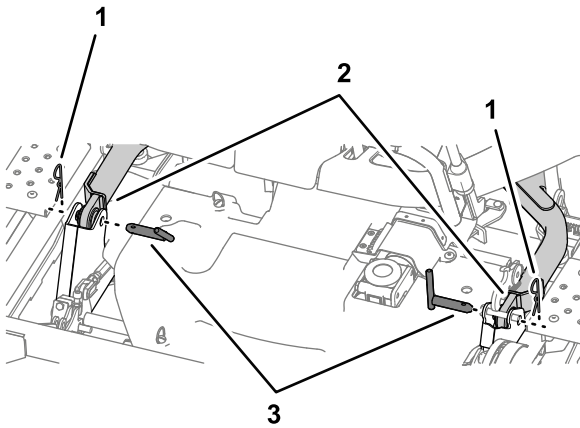

Figure 115
10. Remove the 2 lynch pins and 2 clevis pins that secure the lift arms at each side of the mower deck (Figure 115).
6. Install the lynch pin and clevis pin to secure the lift arms on each side; refer to Figure 115 in Removing the Mower Deck (page 77).